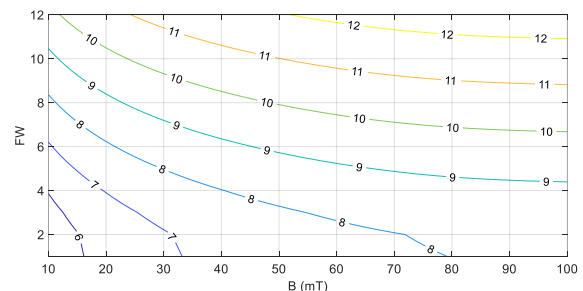

Figure 25: Resolution as a Function of Magnetic Field and Window Size
The filter window (FW) determines the effective resolution (defined as the ±3σ noise interval). Figure 25 shows the effective resolution for different window size (FW) and magnetic field (B).